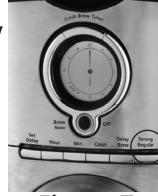

Figure 7
2. To enjoy a more full flavored cup of coffee, press the Brew Strength button once. The STRONG Brew Strength amber light will turn on. The coffeemaker will remain in the Brew Strength you have selected until you change it back to REGULAR strength by pressing the Brew Strength button or until you unplug the machine (Figure 7).